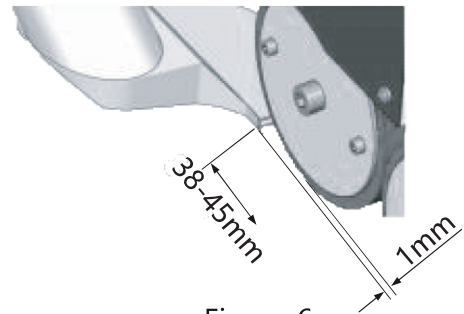

Figure 6
- 2、 The distance between hot air nozzle and Drive roller should be shown as figure 6